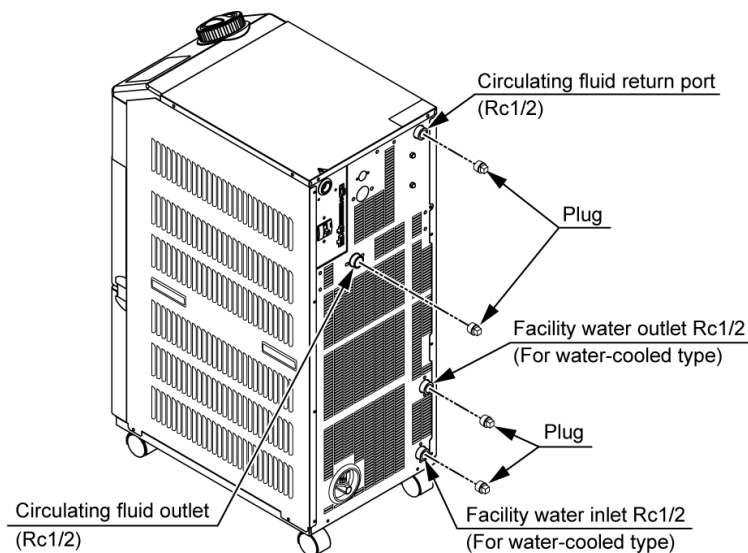

Fig. 8-6 Plug to the piping of the product
9. Refer to Fig. 8-6 Plug to the piping of the product to mount the plug to the piping of the product.